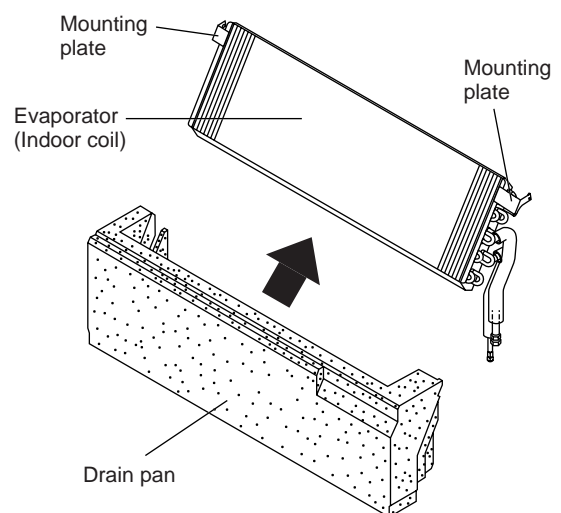

Fig.11
(8) The evaporator can be removed by sliding it out from the drain pan in the direction of the arrow. (Fig. 11)